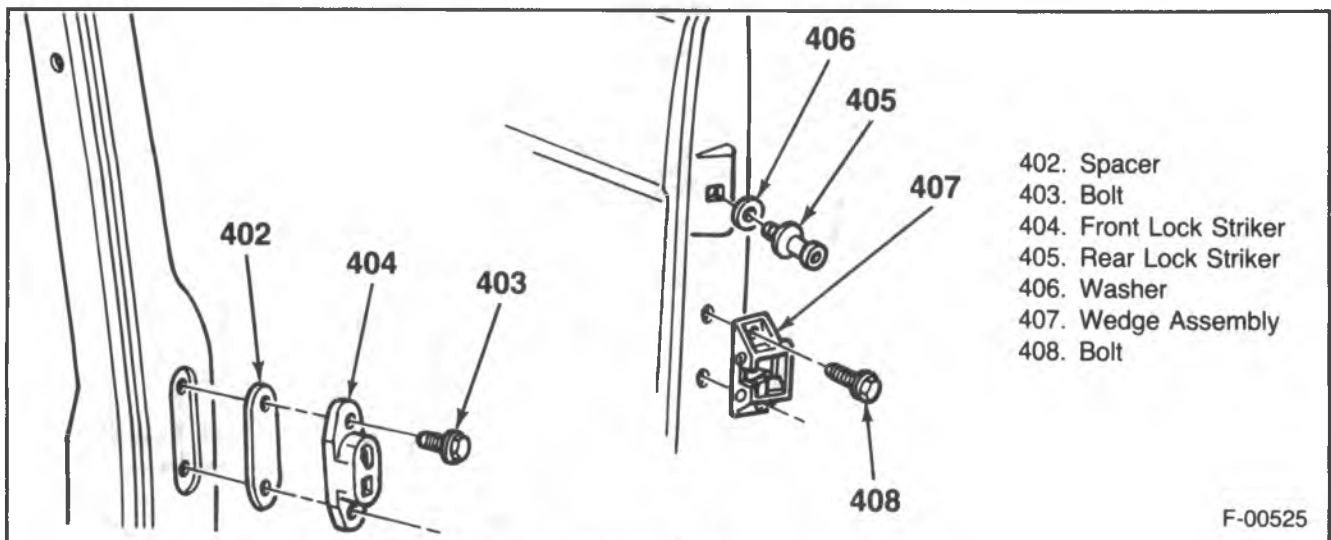

Figure 95 — Front and Rear Lock Striker
↔ Remove or Disconnect (Figure 95)
Install or Connect (Figure 95)
IN AND OUT ADJUSTMENT (Figures 95 through 97)
2. Remove the front (404) and rear (405) lock strikers (figure 95).
8. Install the front (404) and rear (405) lock strikers at the position previously marked (figure 95).
FRONT STRIKER ADJUSTMENT (Figure 95)
REAR STRIKER ADJUSTMENT (Figure 95)